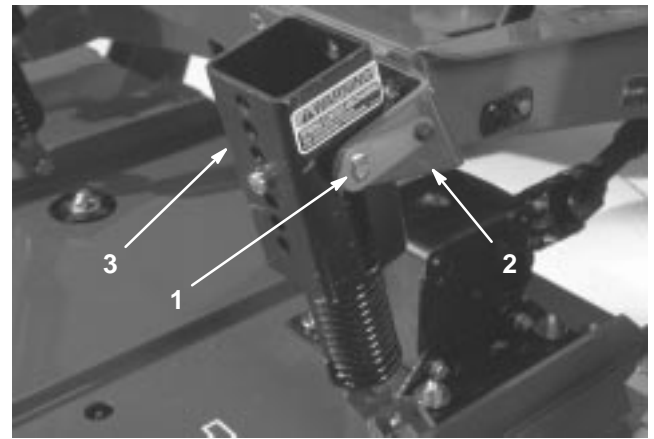

Figure 23
2. Disconnect the counterbalance from the traction unit, remove the lock pins from the brackets, separate the spring tension assemblies from the brackets, and lay them down on the deck. Loosely secure the lock pins to the brackets to prevent losing them (Fig. 23).
7. Connect the counterbalance to the traction unit brackets with lock pins (Fig. 23).